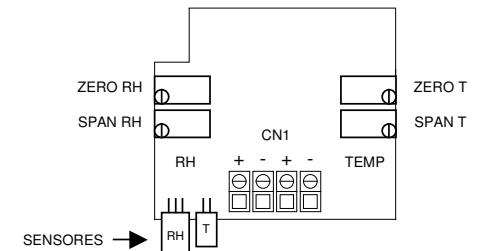

Figure 5 – Calibration trimpots inside the instrument.
- 3) Adjust the ZERO RH or ZERO T trimpots to bring the output value to the correct value (see Figure 5).